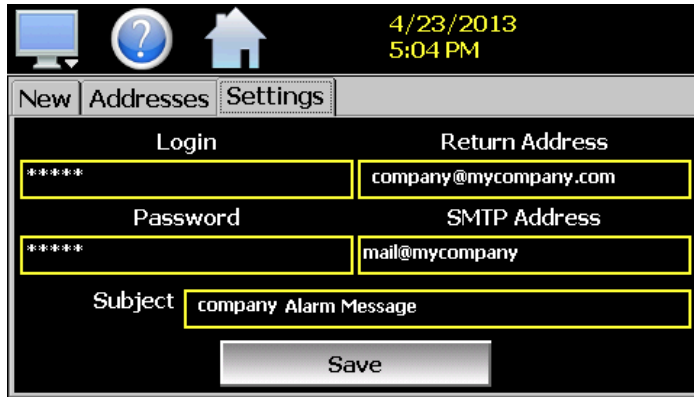

Fig. 96: Email Settings Screen
1. From the E-mail screen, select SETTINGS tab (Fig. 96).